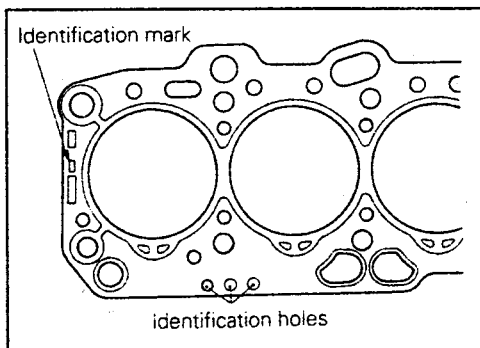

Fig. 15.15. — The identification mark and the identification holes must be visible after the gasket has been fitted.
- Thoroughly clean the sealing faces of cylinder head and cylinder block and place a new cylinder head gasket in dry condition over the cylinder block. Under no circumstances use sealing compound. The cylinder head gasket has an identification mark and identification holes at the positions shown in Fig. 15.15. The mark on the L.H. side must be visible after the gasket has been fitted. The identification holes also serve a certain purpose. If the cylinder block, pistons, connecting rods or the crankshaft have been replaced, it will be necessary to measure the protrusion of the pistons above the cylinder block face. From the values obtained, a different gasket may have to be selected. Further information are under the heading "Pistons and Connecting Rods" on the following pages.
- The cylinder head gasket can now be selected. Fig. 15.15 shows a gasket with three identification holes. Other gaskets have either one or two holes. From the table below you will be able to select the correct gasket for the block/piston assembly, but it should be noted that the max. protrusion value at any of the eight measurement points must not exceed the protrusion tolerance given below. If this is the case, use the next gasket up.